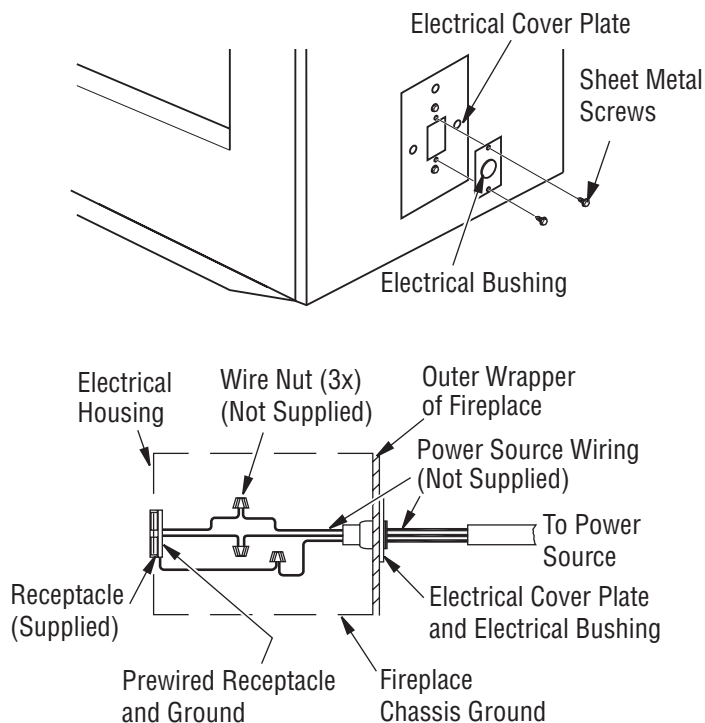

Figure 6 - Fan Switch-Electrical Bushing
Fan/blower kit electrical connections are made through electrical cover plate on side of fireplace as shown in Figure 6.
1. Remove electrical cover plate with bushing from fireplace by removing 2 sheet metal screws as shown in Figure 6.
3. Slide all wiring connections in electrical housing as shown in Figure 6.